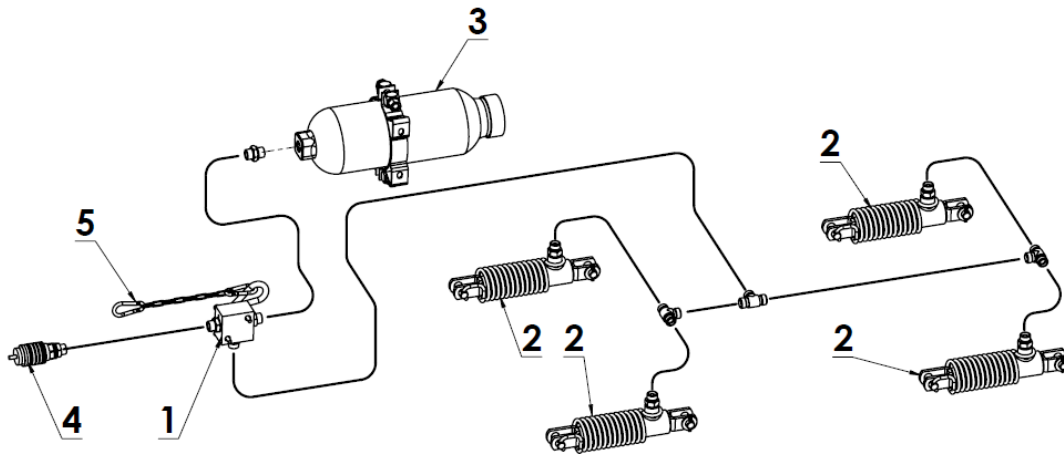

Figure 10 1-line hydraulic braking system - N267/2 Spreaders:
- 1-line hydraulic braking system: N267/2 (Figure 10),
The Spreader can be optionally equipped with a 1-line hydraulic braking system - see Figure 10. The brake is activated from the driver's seat by pressing the brake pedal of the tractor. The Spreader brake is supplied and activated directly from the hydraulic braking system of the tractor. In the event of an accidental disconnection of the Spreader coupled with the tractor, the emergency valve (1) will activate the brakes of the machine by means of the chain (5).